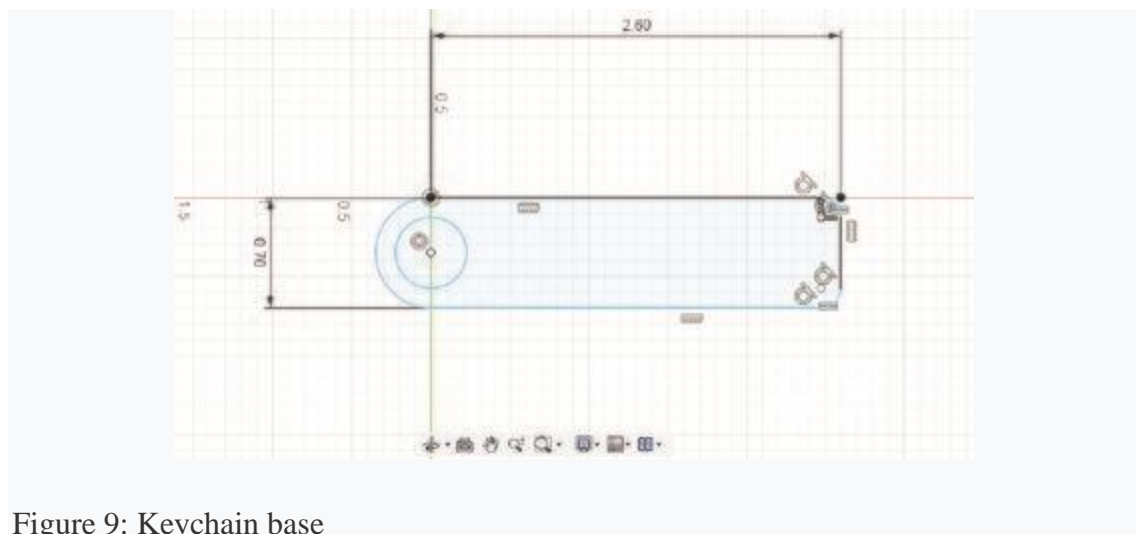

Figure 9: Keychain base
- iv. The sketch should look like Figure 9.